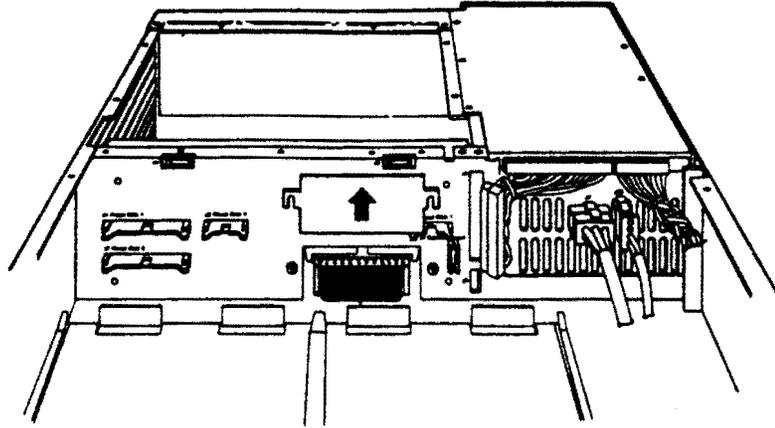

Figure 4-26: Q22-bus Cable Backplane Connector
13. To remove the Q22-bus cable connected to the signal distribution panel, loosen the two screws holding the cover and slide the cover off. Remove the cable (Figure 4-26).
3. Reconnect the Q22-bus cable (Figure 4-26) and install the cover.